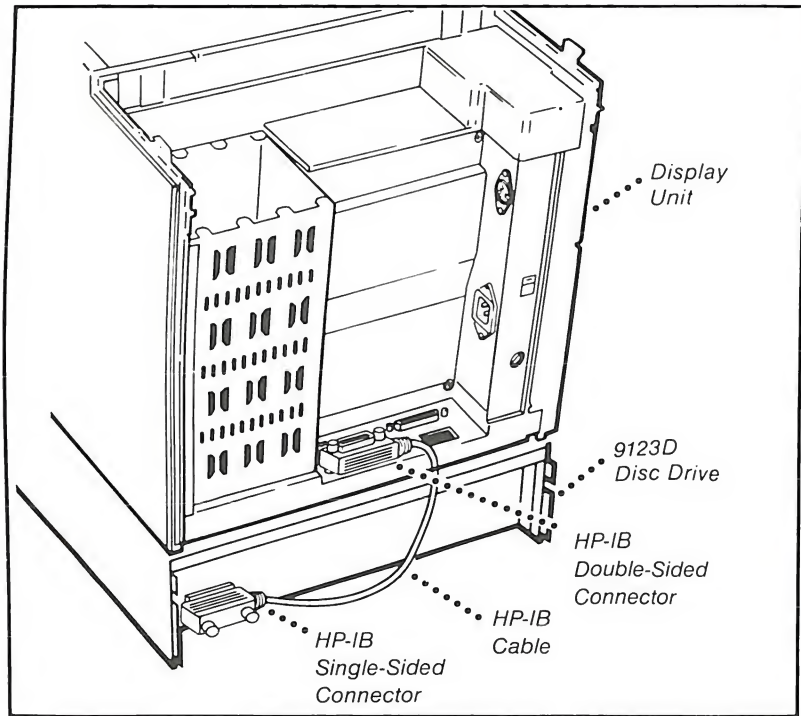

Figure 4-6. The HP 9123D HP-IB Cable
7. Notice that the connector heads at both ends of the cable are different. Use Figure 4-6 to see which end goes to which plug.